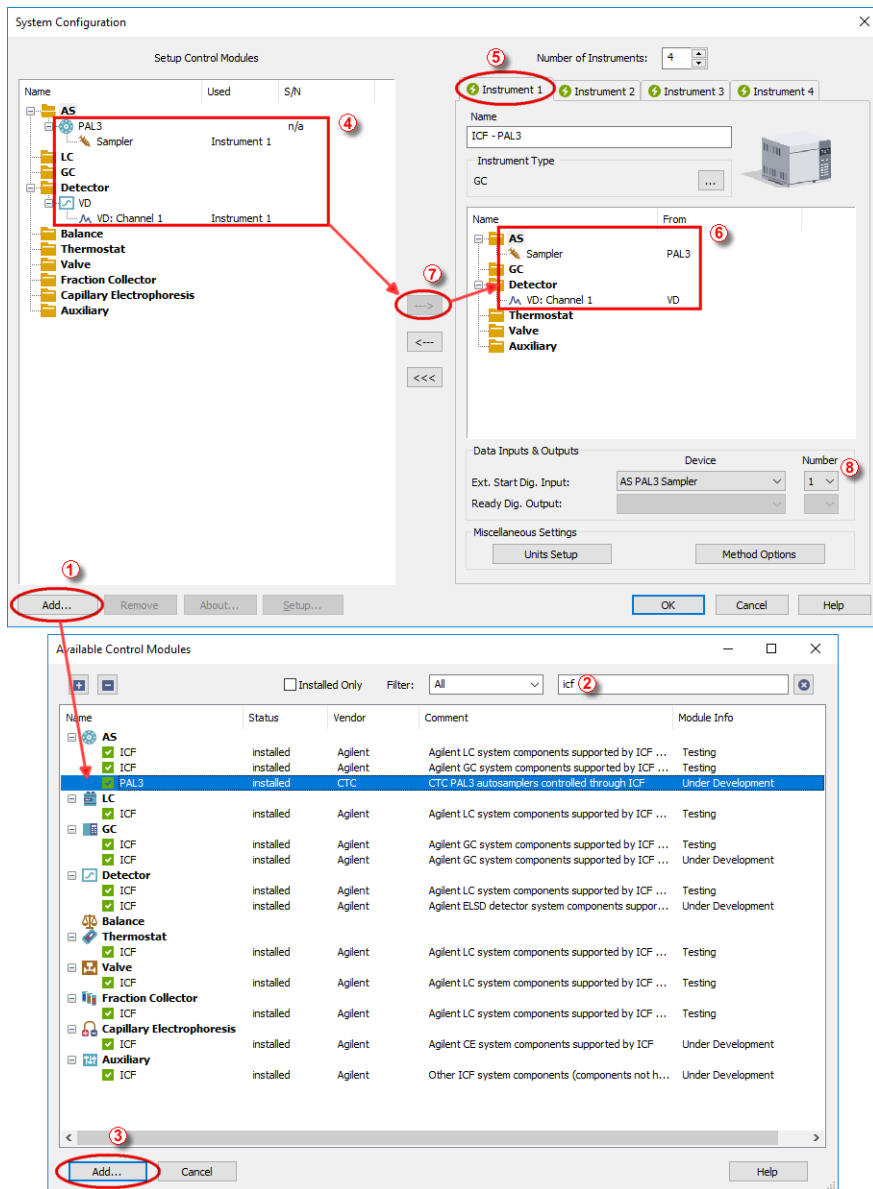

Fig. 4: System Configuration
- Press the **Add** button ① (See **Fig. 4** on pg. 6.) to invoke the **Available Control Modules** dialog.
- You can specify the searching filter ② to simplify the finding of the driver.
- Select the **PAL3** item and press the **Add** ③ button.
**Caution:** When the *PAL3 Setup* dialog is open for extended time, communication between **Clarity** and the AS may be lost, in such case an error message will be displayed. After accepting the error message it is necessary to set the configuration from very beginning, starting with clicking the *Add* button ① (See **Fig. 4** on pg. 6.) in the *System Configuration* dialog.
- Drag and drop the **PAL3** icon from the *Setup Control Modules* list ④ on the left side of the *System Configuration* dialog to the desired *Instrument* ⑤ tab on the right side ⑥ (or use the  button ⑦ to do so).
- Set the *Ext. Start Dig. Input* ⑧ to "1" -  ⑧ for ICF Sampler to assure correctly synchronized start of the analysis with the **PAL3** sampler's injection.